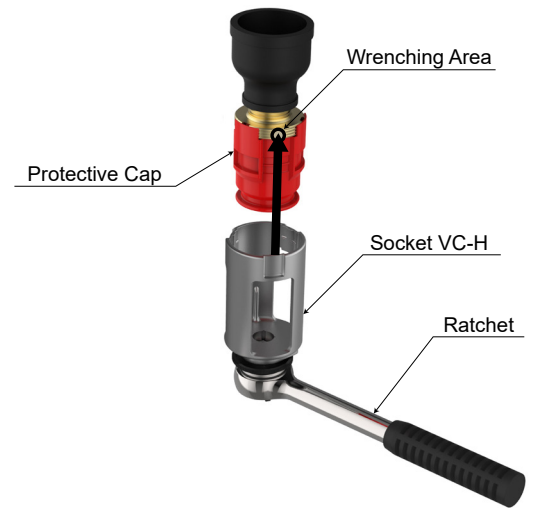

Figure 4: Ratchet & Socket
Step 4: Wrench tighten the Sprinkler using only the Socket VC-H or Ratchet (3/8" drive) & Socket VC-H Combination (Ref. Figure 4). The wrench recess of the Socket is to be applied to the sprinkler wrenching area (Ref. Figure 4).